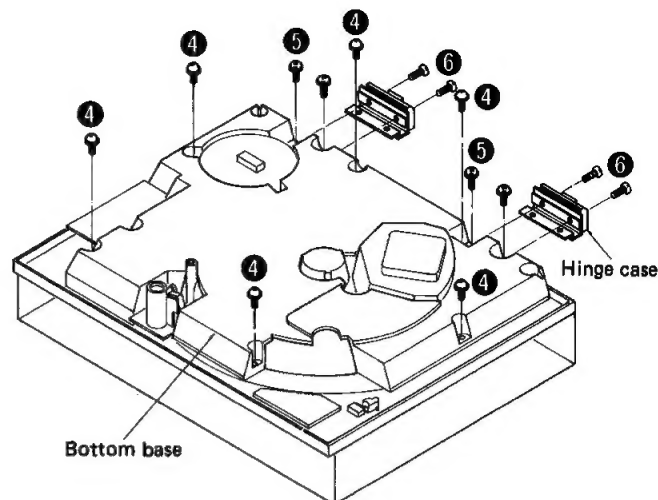

Fig. 2
4. Remove the 6 setscrews (**Fig. 2 : ④**) of the bottom base.
2. Remove the 4 setscrews (Fig. 2 : ⑤) of the hinge case bracket.
3. Remove the 4 setscrews (Fig. 2 : ⑥) of the hinge case.